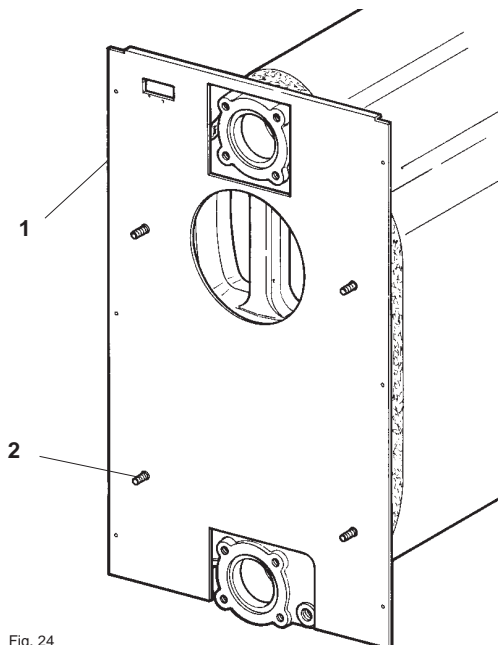

Fig. 24
5.01 (Fig. 24) Mount rear panel 1 on stud bolts 2 without fixing it.